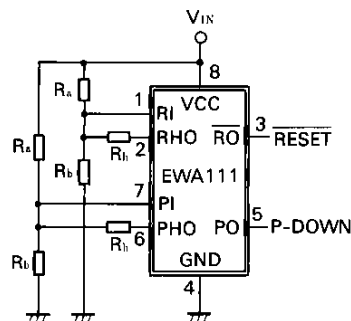

Fig. 4 Hysteresis voltage external setting circuit
System power-supply conditions may require a change in hysteresis voltage value of the input voltage detection circuit. Figure 4 shows an application circuit for external adjustment of the hysteresis voltage value.  $V_{RIH}$  (or  $V_{PIH}$ ) and  $V_{RIL}$  (or  $V_{PIL}$ ) can be calculated using formulas (5) and (6).